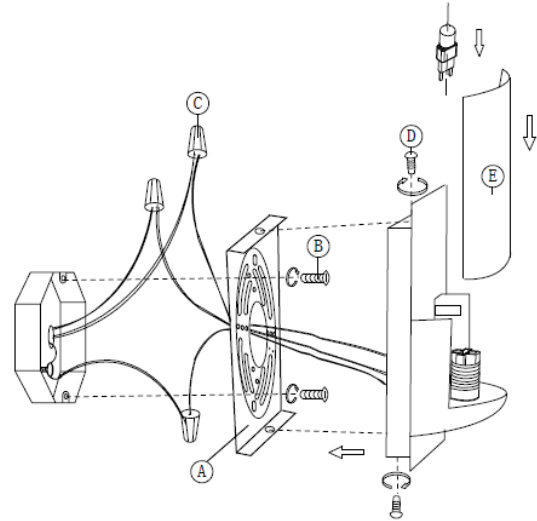

Fig. 1
CONNECTING THE WIRES (Fig. 1)
5. Connect the electrical wires as shown in Fig. 1, making sure that all wire connectors (C) are secured. If your outlet has a ground wire (green or bare copper), connect the fixture's Ground Wire to it. Otherwise, connect the fixture's Ground Wire directly to the Mounting Bracket or Reinforcement Plate using the Green Screw provided.